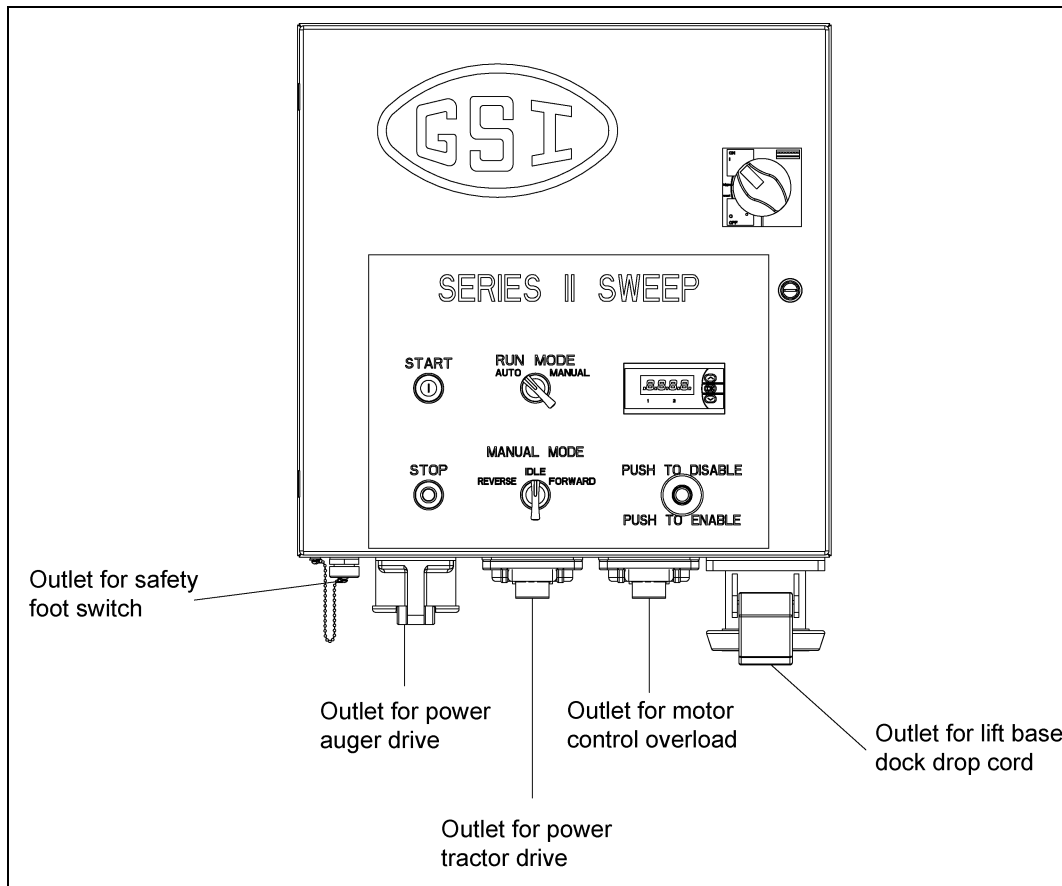

Figure 5D
Based on where the outlet for the drop cord is installed on the panel, all three (3) mounting positions may not be possible. (See Figure 5D.)